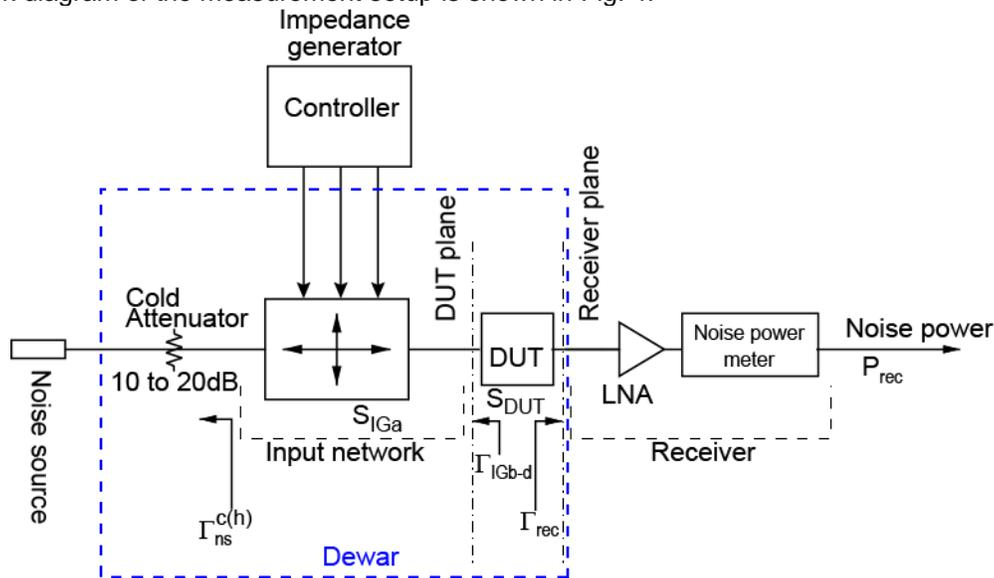

Fig. 4. Block diagram of the noise-parameter measurement system.
A block diagram of the measurement setup is shown in Fig. 4.
“Cold-attenuator” measurement setup is shown in Fig. 4. Other measurement options are available. Some measurements can be performed at room temperature. Please contact Berkeley Nucleonics for more information.
- Step 6 Connect the output of C-IG to the input of the receiver (i.e. as in Fig. 4 but with the DUT replaced by a thru). Set the C-IG to its state “A”. For both the ON state and the OFF state of the NS, measure noise powers with the receiver ($P_{rec,cal}$) and the NS temperature³ (T_{NS}). Save measurements in appropriate files.